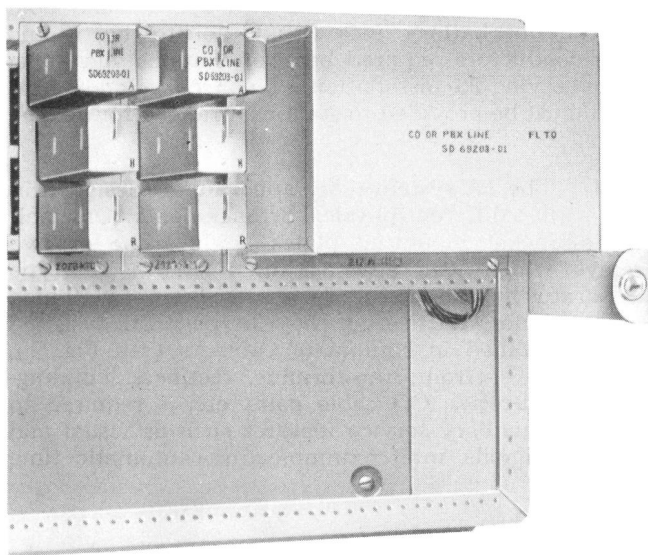

FIG. 3 — 1A1 KEY TELEPHONE UNITS
1.05 The 1A1 system apparatus is designed on unit panel-type mounting plates of 200 series KTU (see Fig. 3) and supersedes the strip-mounted, 50-type KTU portion of the 1A system line circuit and allied facilities.
3.06 A 1A1 key telephone system equipment installation is shown in Fig. 3.